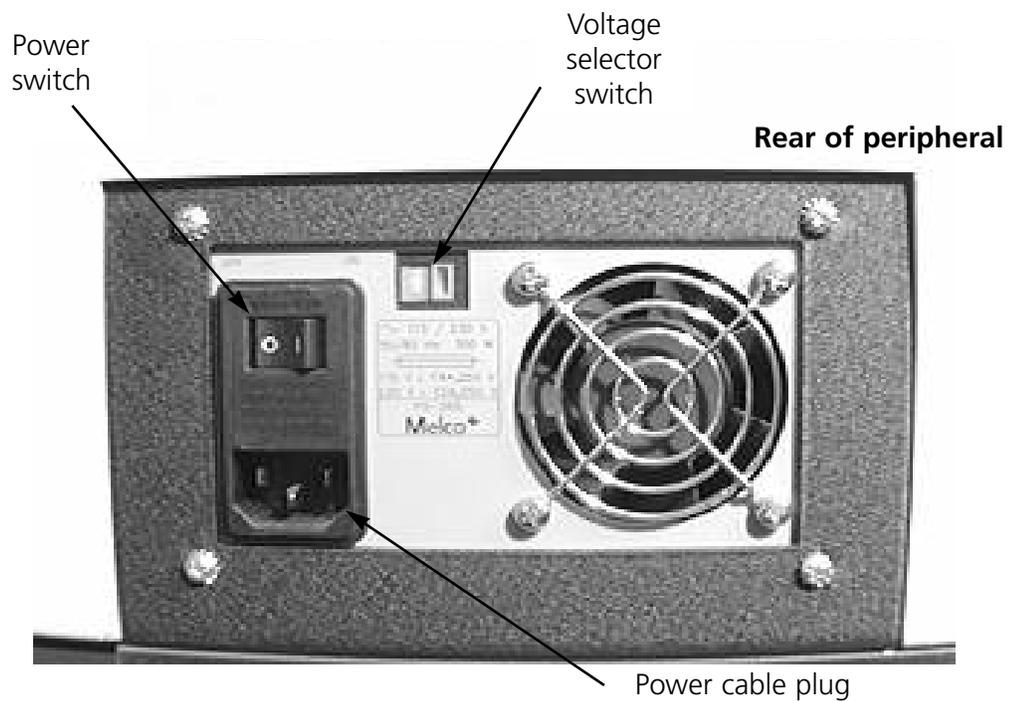

Figure 1-8
3. Plug the power cable to the rear of the unit as shown in Figure 1-8.